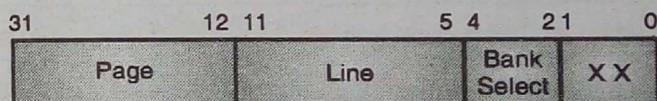

Fig. 15.7 : Address as viewed by L1 data cache
7. Each memory address sent to the internal cache controller is examined to determine the page, line and doubleword that contain the target memory location by the division of the address as shown in Fig. 15.7.